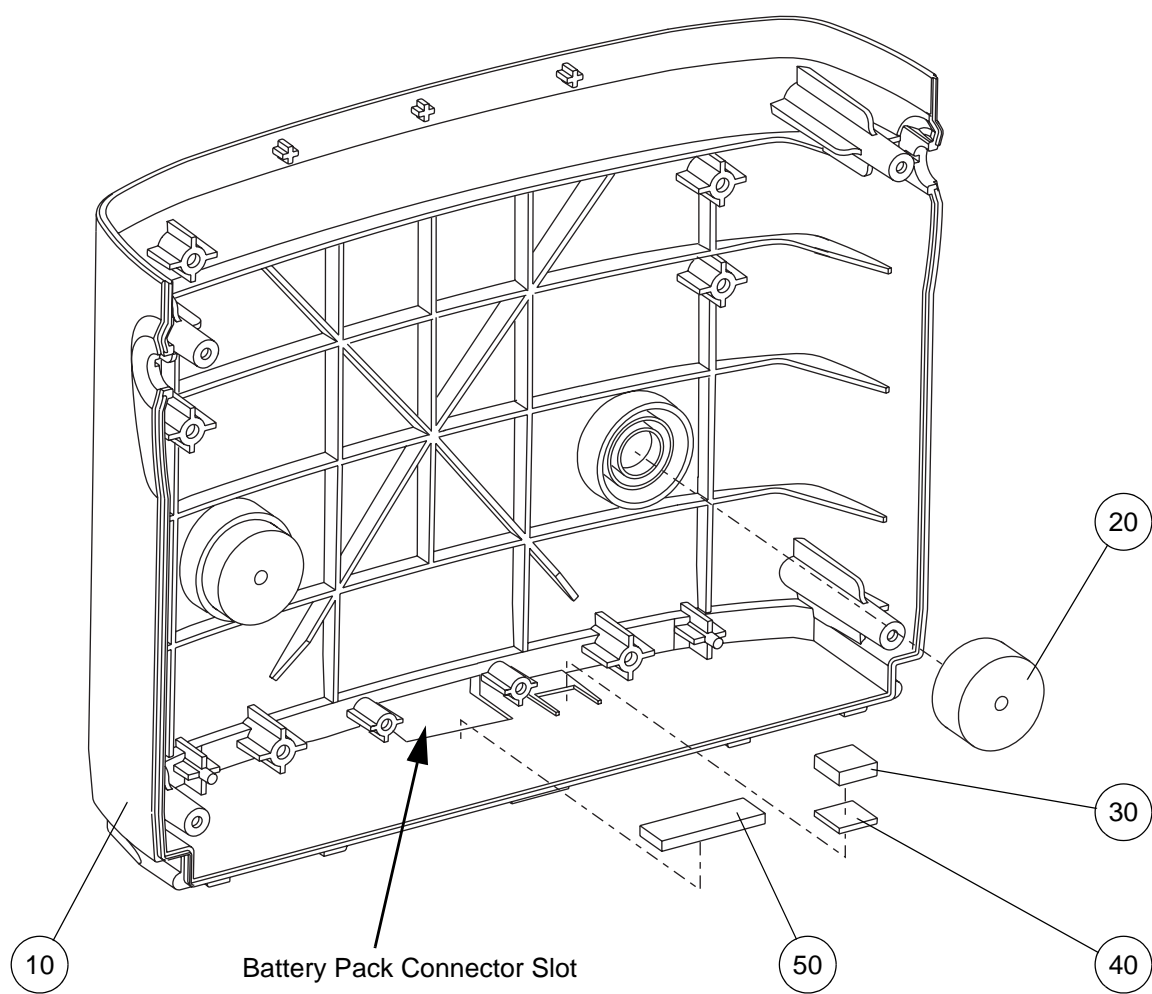

Figure 63 - Replacing the Front Case
- 41.3 Lay the new front case (Fig 63, Item 10) down with the inside surface pointing upwards.
- 41.4.1 The two compressor support rubbers (Fig 63, Item 20).
- 41.4.2 The connector sealing strip (Fig 63, Item 50), adjacent to the battery pack connector slot.
- 41.4.3 The magnet mounting pad (Fig 63, Item 40) onto the front case, in the appropriate slot.
- 41.4.4 The ferrite magnet (Fig 63, Item 30) onto the ferrite mounting pad.